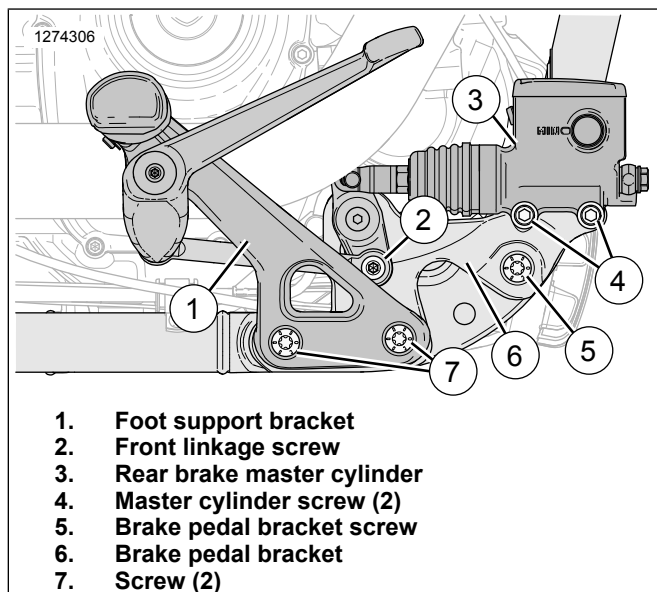
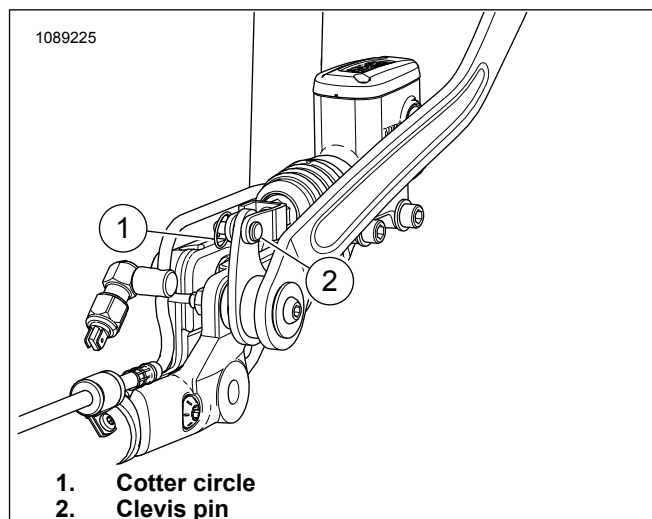

Figure 7. Right Side Mid Controls
Figure 8. Rear Master Cylinder - Rear View: (exhaust remove for clarity)
- b. Remove clevis pin (1).
- c. Remove footpeg (4).
- d. Remove torsion spring (2).
2. See Figure 7. Remove right side foot support bracket.
- a. Remove front linkage screw (2).
- b. Remove screws (7).
- c. Remove foot support bracket (1).
- a. See Figure 8. Remove cotter circle (1).
- b. Remove clevis pin (2).
- c. See Figure 7. Remove screws (4).
- d. Support rear brake master cylinder (3).
- a. Remove screw (5).
- b. Remove brake pedal bracket (6).
- b. See Figure 8. Install clevis pin (2).
- c. Install cotter circle (1).